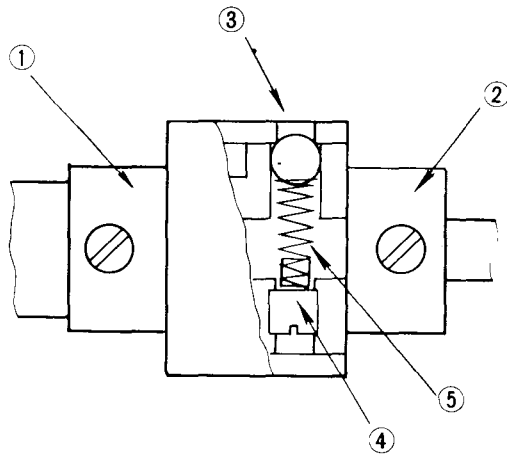

Fig. 25
**ADJUSTMENT OF SPRING TENSION OF SAFETY CLUTCH** (Fig. 25)